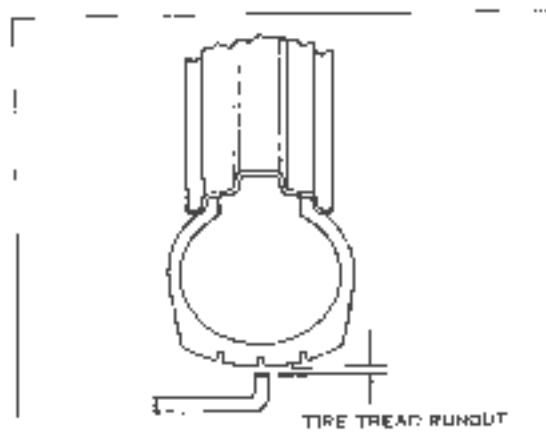

Figure 2-27. Checking Tire Radial Runout.
1. Check runout by turning wheel on axle, measuring tread runout (see Figure 2-27).